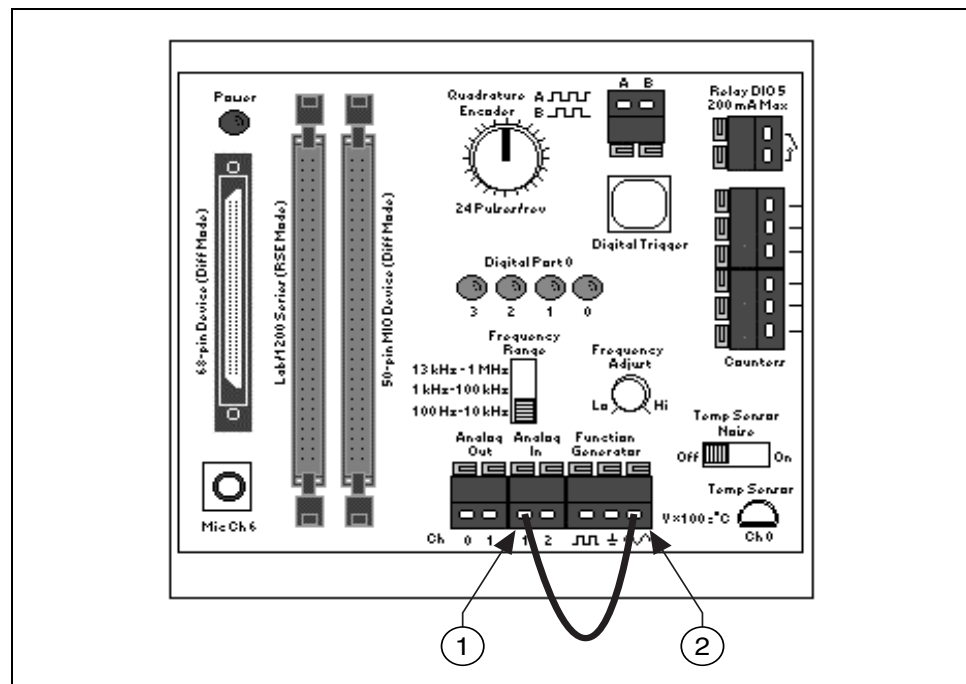

Figure 2-33. Connection for the DAQ Signal Accessory
- Using a wire, connect the Analog In Channel 1 to the Sine Function Generator, as shown in Figure 2-33.